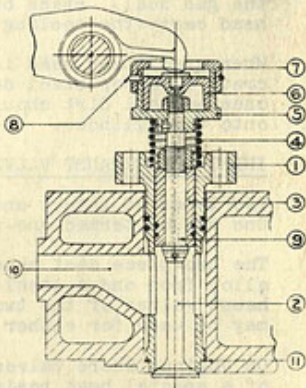

FIG. H-1
The poppet type starting air valve, illustrated in Fig. H-1, is actuated from the camshaft by means of a lifter, pushrod and rocker, and is rendered inoperative while the engine is running by a pneumatic piston arrangement between the top of the valve stem and rocker.
Fig. H-1 shows the device in the inoperative or cutout position, as it is when the engine is running. Valve (2) is held closed against its seat by spring (4), and piston (6) is down against cylinder (5), held so by a spring under the lifter. This spring holds the lifter and its latch up clear of the camshaft, so that as the cam rotates it does not contact the latch roller. (See description of latches under paragraph 28.) The pushrod is raised, rotating the rocker and holding piston (6) down against the cylinder as shown.
Referring to Fig. H-1 the valve assembly is contained in cage (1) which is sealed to the head by copper gasket (11) at the bottom and by piston rings at the top and is held in place by two studs. Bronze bushing (3) works in the cage and is sealed against the starting air pressure by two piston rings. Stop (7) is threaded onto cylinder (5) and is locked in place by snap ring (8), the end of which is bent in and projects into a drilled hole in the cylinder. If either stop or cylinder are replaced this hole must be drilled in the cylinder, in line with the hole in the stop when the two parts are screwed tightly together. Use a 13/64" drill. The piston travel should be from .300" to .330", and may be adjusted by facing off the top of either the cylinder or the piston.
On the smaller bore engines the starting air rocker is mounted eccentrically on the rocker shaft. When starting the engine an air ram described in Section R turns the rocker shaft and lowers the air start rocker until contact is made with the air start cam. Consequently on these engines the pneumatic piston arrangement described in paragraph 5 is not needed and is omitted, the rocker bearing directly on the valve stem. On 11½" bore engines the valve is mounted in a cage similar to that shown in Fig. H-1, while on the 10" bore engine the valve is guided and seated directly in the head. Hand oil the air start valves occasionally as described in paragraph 5.